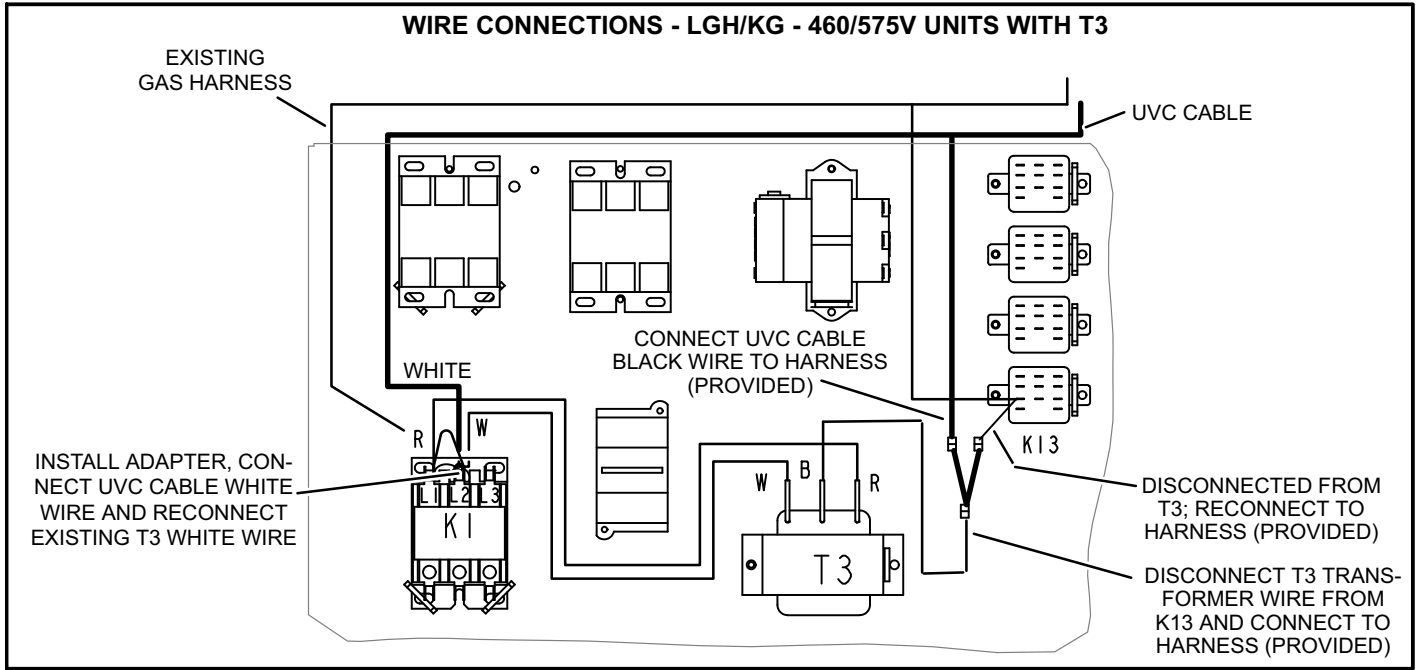

FIGURE 6
- Figure 6 - 460/575V LGH/KG with T3